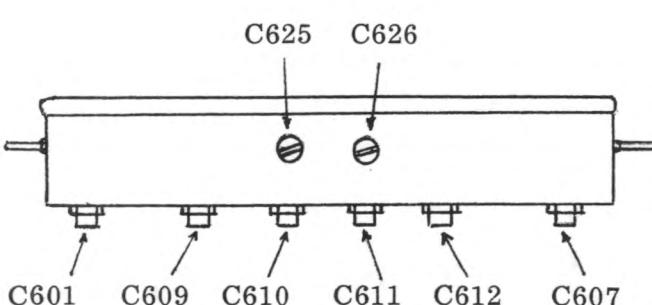

Fig. 15
4.2.2 Alternately adjust C607 and C612 on the filter Model IFF, located in the rear section of the main frame ( see Fig. 15 ), for minimum adjacent sound carrier level. Make adjustments in small increments and repeat for optimum performance.